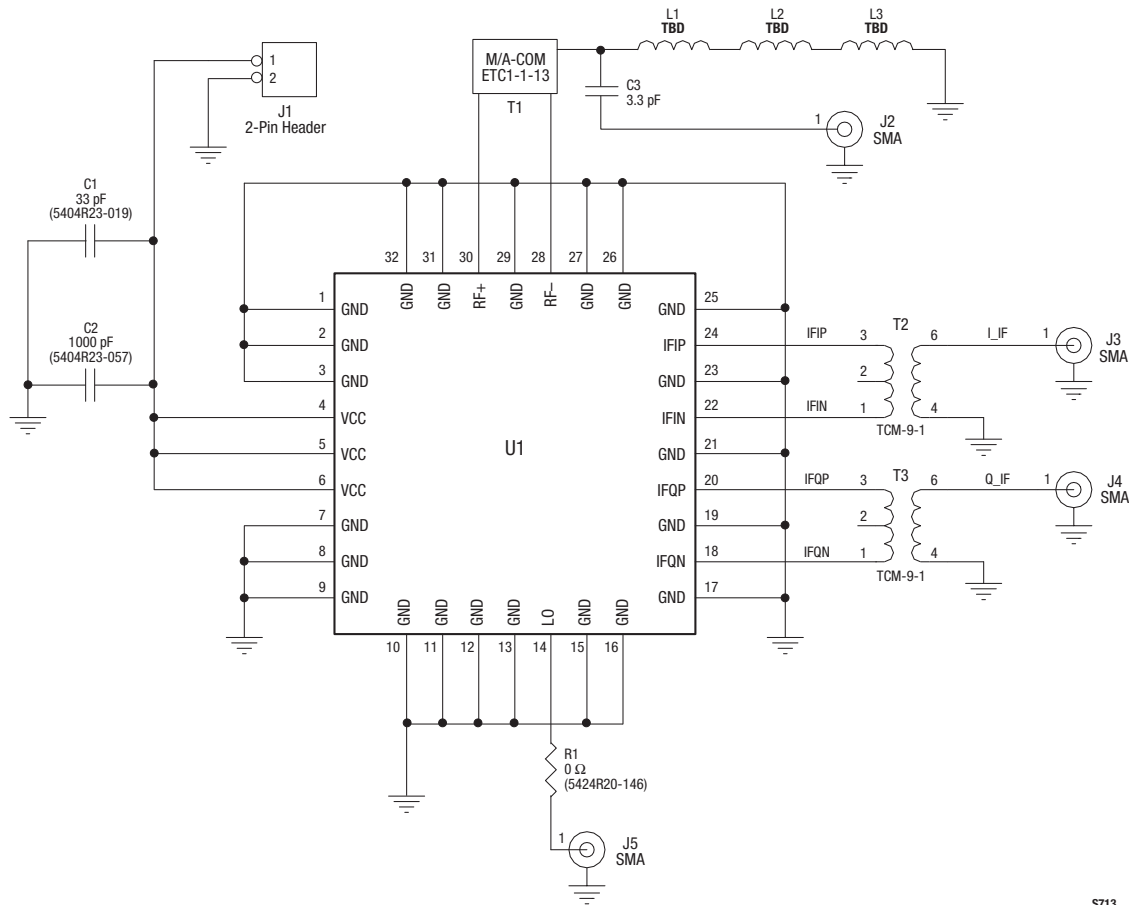

Figure 64. SKY73012 Evaluation Board Schematic (Custom Frequency)
- Custom Frequency: Figure 64 (schematic), Table 7 (component values), and Figure 65 (assembly diagram)